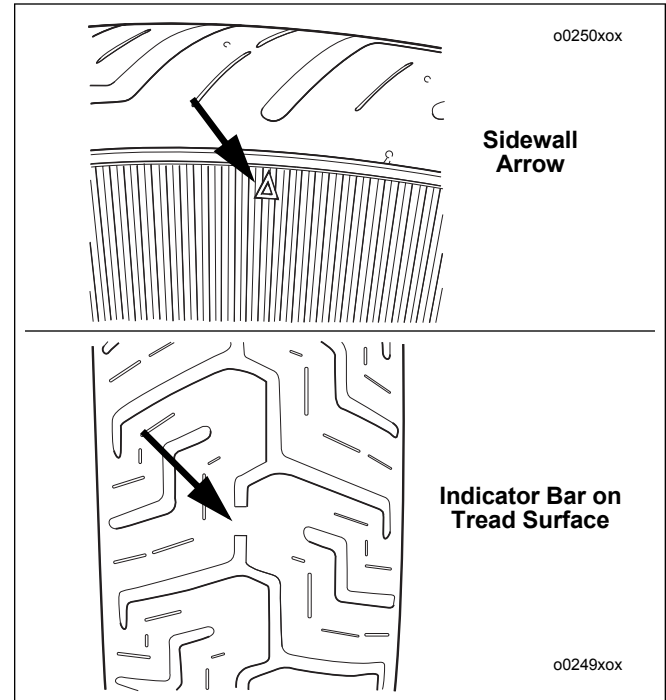

Figure 1-4. Tread Wear Indicator Bars
- a. Locate the arrows on the tire side walls. The arrows point to location of the tread wear indicator bars. See upper frame of Figure 1-4.
- b. Immediately replace tires if any tread wear indicator bar is on the tire tread surface, indicating that 1/32 inch (0.8 mm) or less of tire tread pattern remains. See lower frame of Figure 1-4.